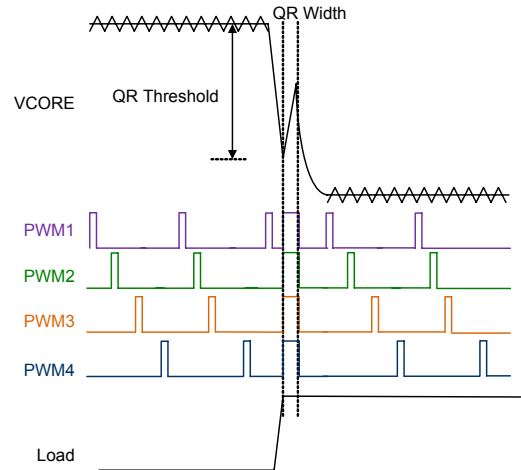

Figure 11. Quick Response Mechanism
**Quick Response (QR) Mechanism**
When the transient load step-up becomes quite large, it is difficult for loop response to meet the energy transfer. Hence, that output voltage generate undershoot to fail specification. RT8884B has Quick Response (QR) mechanism being able to improve this issue. It adopts a nonlinear control mechanism which can disable interleaving function and simultaneously to turn on all UGATE one pulse at instantaneous step-up transient load to restrain the output voltage drooping, Figure 11 shows the QR behavior.